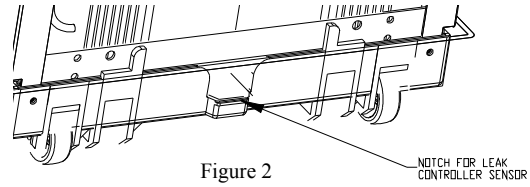

Figure 2
7. Snap the plastic sensor connector onto the plastic base in the location marked in figure 2. The clip snaps over the rib on the outside of the base so that the terminals in the plastic housing are inside the base.